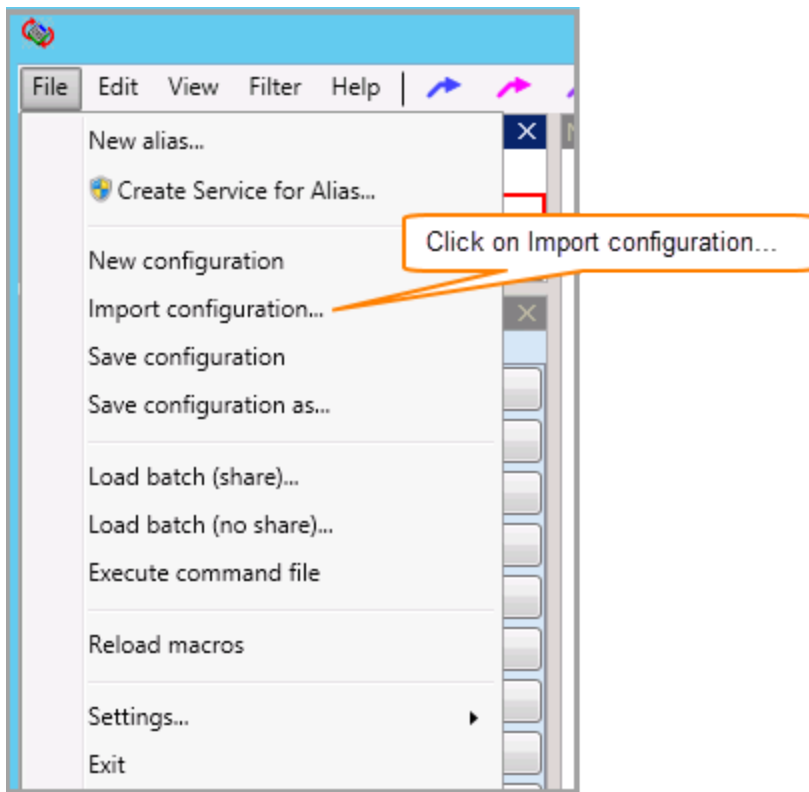

Figure 4: Import the Configuration from the File Menu
1. Click on **Import configuration** from the File menu as shown in Figure 4.